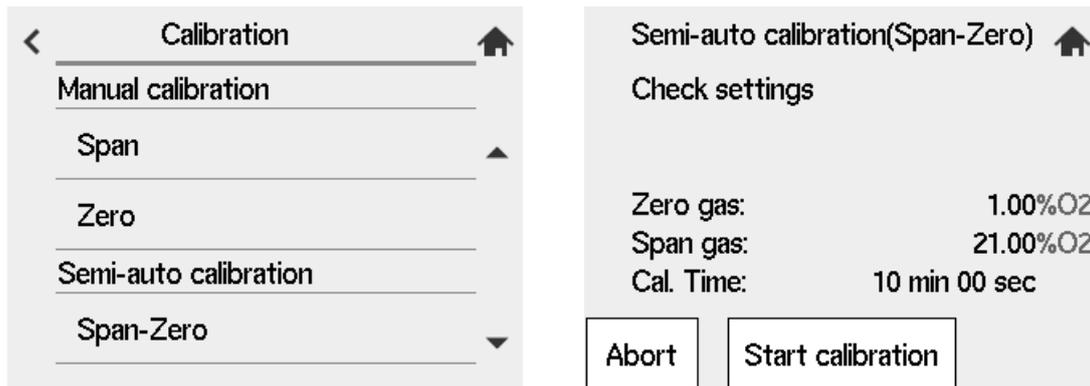

Figure 8.7 Semi-auto Calibration
- (1) Press the [Abort] key. If this key is pressed midway during calibration, the calibration will stop and the hold (output stabilization) time will be set up.
- (2) Press the [Abort] key once again to return to the screen as shown in Figure 8.7.